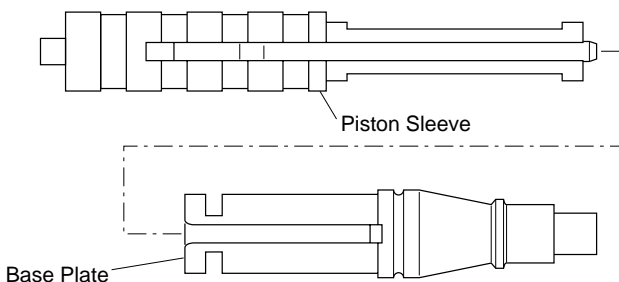

Figure 3 - Separating Base Plate From Piston Sleeve
4. Remove shear clip from barrel assembly (see item 20, page 17, for shear clip location).
5. Separate base plate from piston sleeve (see Figure 3).